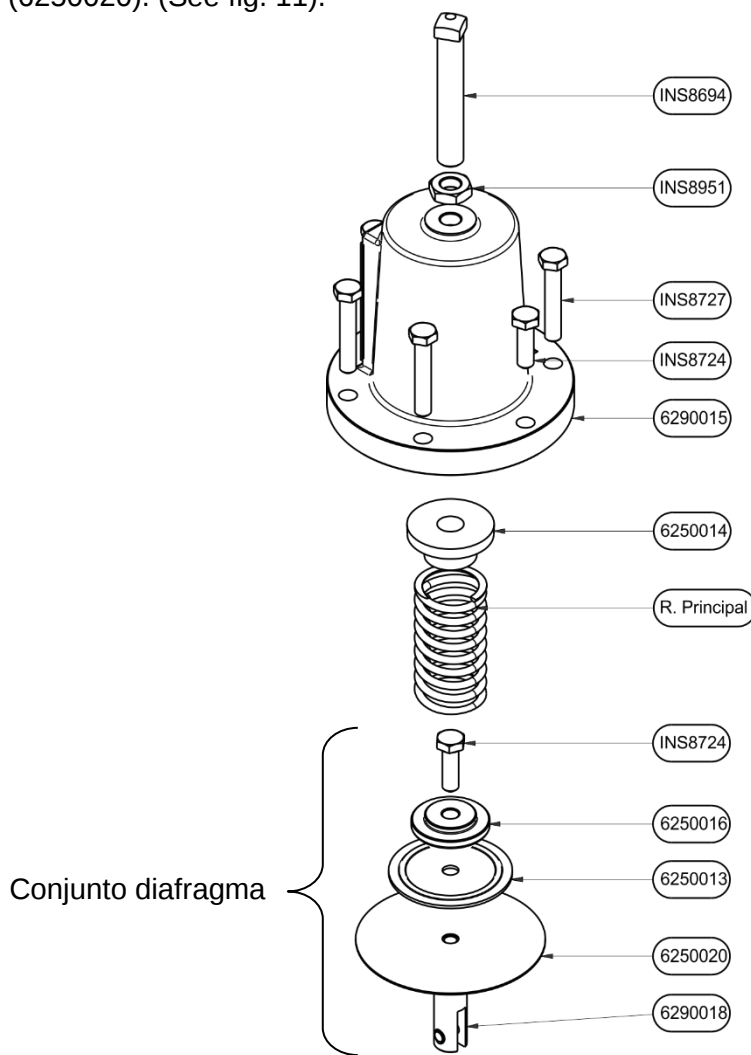

Fig. 11
9- Remove the screws (INS8727) along with the nuts (INS8971) and screw (INS8724). (See fig. 11).
12- Remove the diaphragm assembly, to replace it remove the screw (INS8724) and replace the diaphragm (6250020). (See fig. 11).
- a. The screw adjustment when reassembling the diaphragm assembly (see fig. 11) is done with well-adjusted manual tightening (6 to 10 N/m).